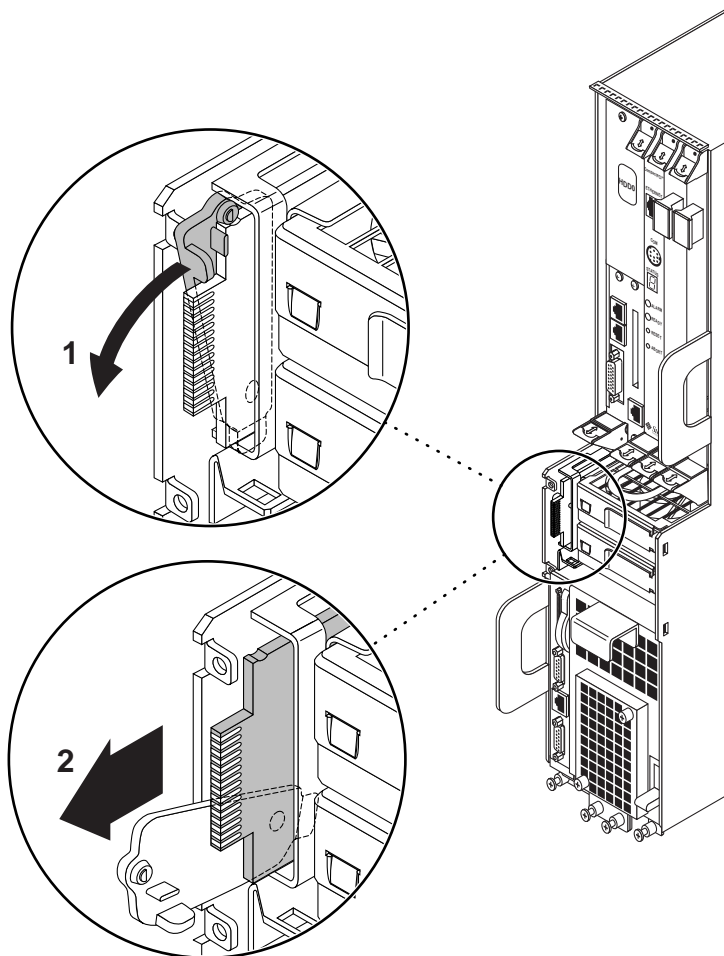

FIGURE 8-8 Removing a System Controller Board
4. Pull down on the ejection lever to unseat the system controller board (FIGURE 8-8).